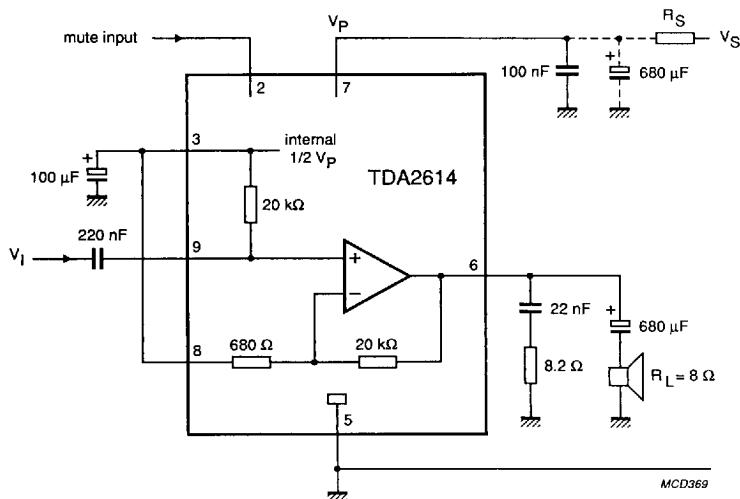

Fig.5 Test and application circuit with asymmetrical power supply.
1. $V_p = 24 \text{ V}$; $R_L = 8 \Omega$; $T_{amb} = 25^\circ\text{C}$; $f = 1 \text{ kHz}$; asymmetrical power supply $I_{MUTE} < 30 \mu\text{A}$. See Fig.5
5. $V_p = 8 \text{ V}$; $R_L = 8 \Omega$; $T_{amb} = 25^\circ\text{C}$; $f = 1 \text{ kHz}$; asymmetrical power supply. See Fig.5